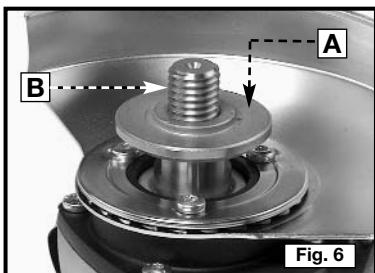
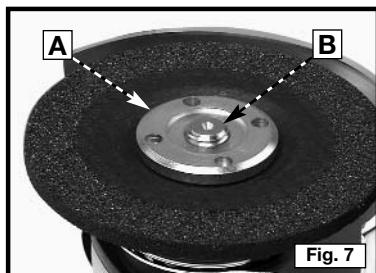

Fig. 6
Fig. 7
2. Position the inner flange (A) Fig. 6 on the spindle (B), with the round hub facing outward, away from the machine. Rotate the flange until it drops into place on the spindle.
4. Position the outer flange (A) Fig. 7 on the spindle (B) Fig. 6 with the flat side against the wheel, and thread into place hand tight.